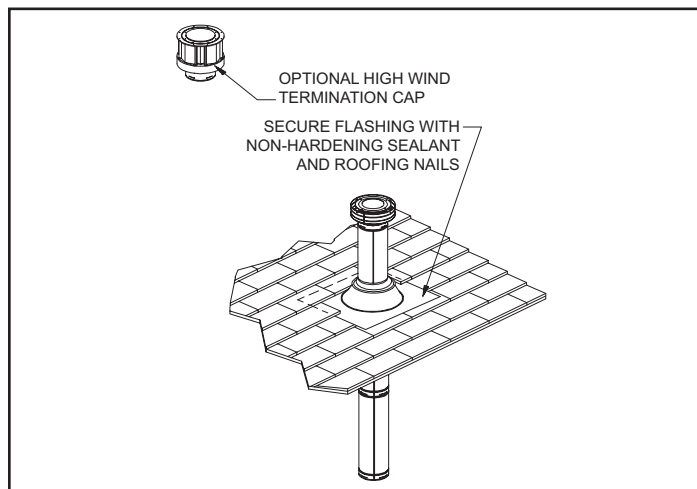

Figure 5.15
**Step 8** - Slip the storm collar over the pipe, and push it down to the top of the flashing (Figure 5.15). Use non-hardening sealant above and below the joint between the storm collar and the pipe.